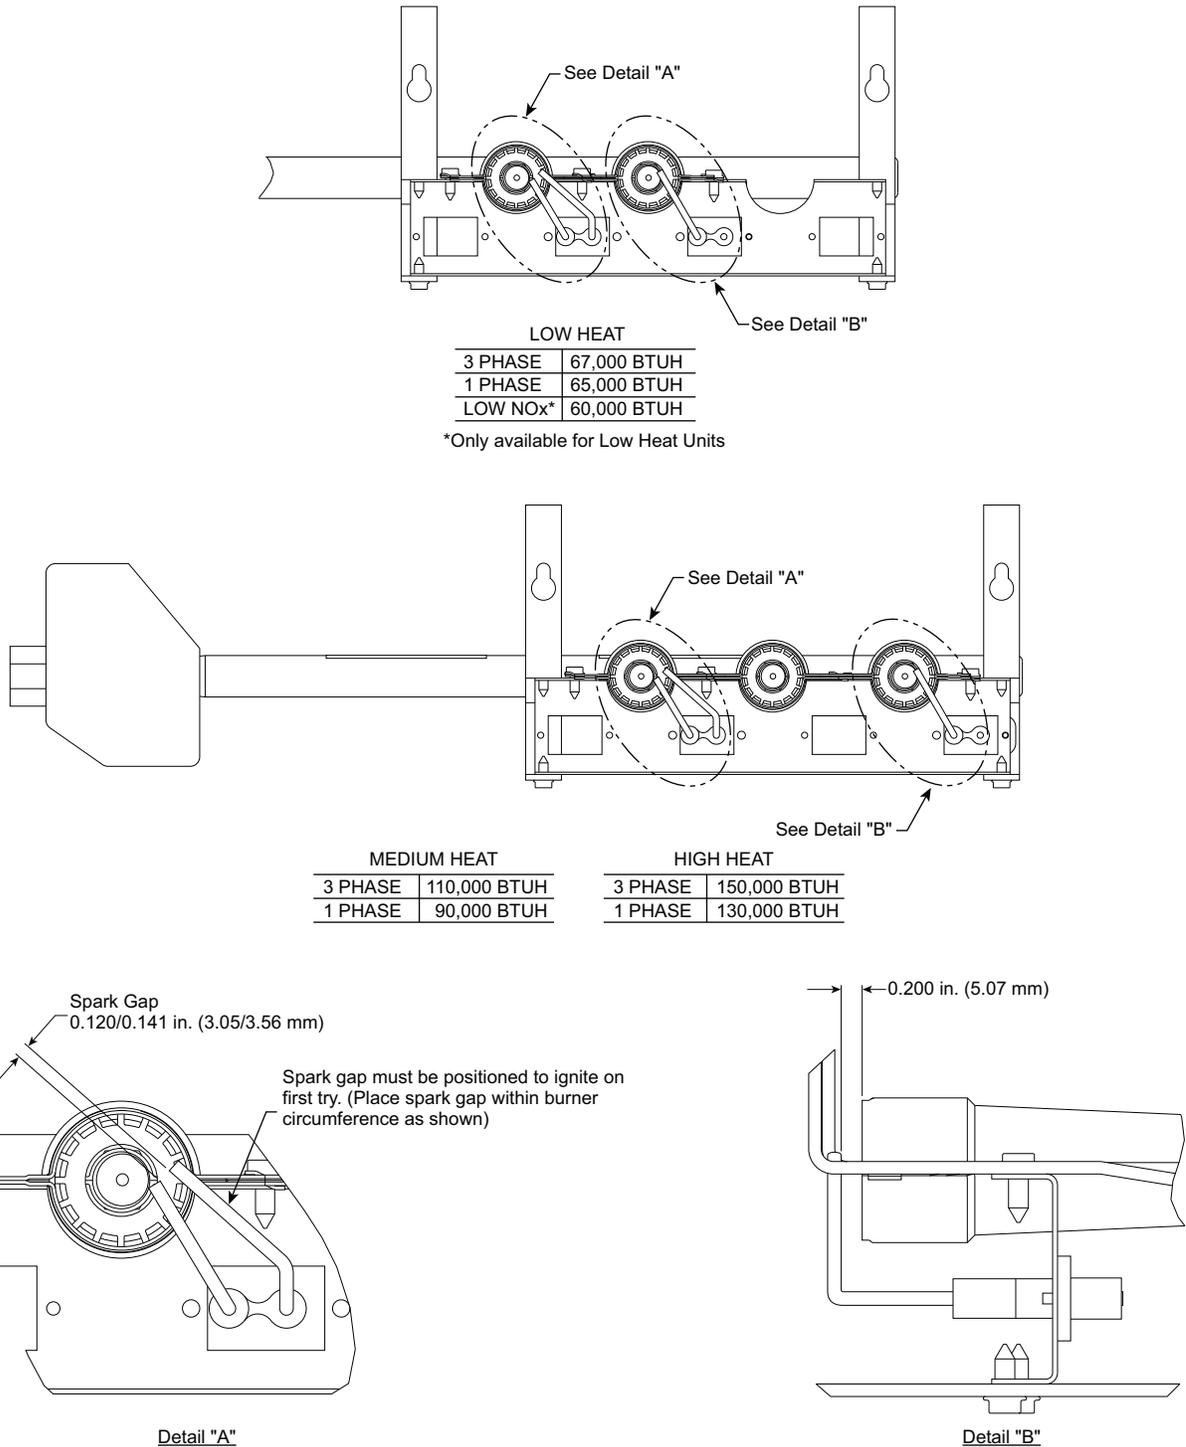

Fig. 40 — Spark Adjustment (Size 04-07)
4. Adjust spark gap. (See Fig. 40.)